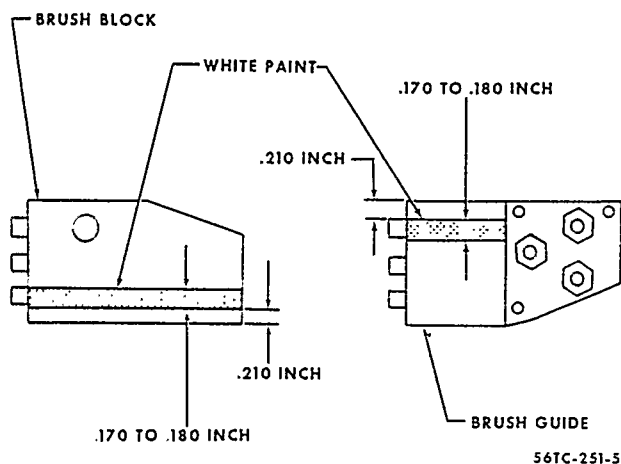

Figure 11-6A. Deicer Brush Alignment Stripes
- Mask off and paint a white stripe .170 to .180 inch wide on the brush block and brush guide. Locate as shown in figure 11-6A. The white stripes should be in line with the outer brush and will be used to align the brushes with the slip ring during reinstallation.